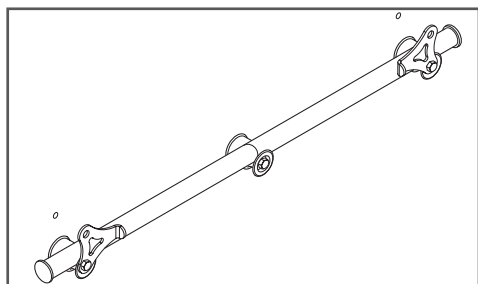

Figure 5
8. Center the track (A.) on top of the track supports (Figure 5).